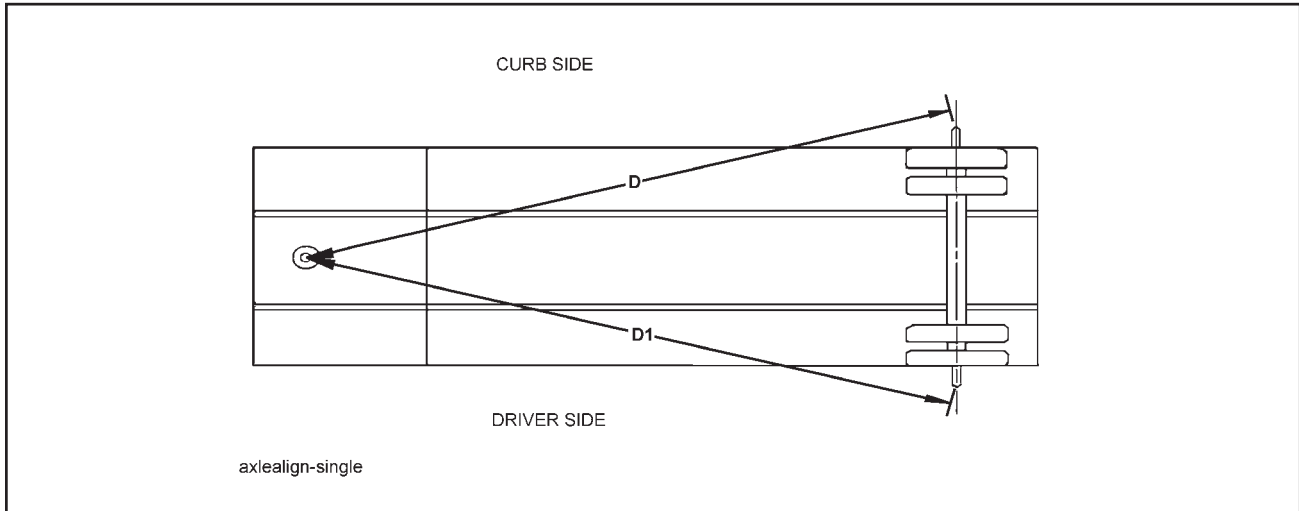

Figure 4-7 Checking Axle Alignment
4. Measure (D) from the plumb bob to the center point on one end of the axle. Record this measurement (**See Figure 4-7**).
5. Measure (D1) to the other end of the axle in the same manner as in **Step 4**.. Record this measurement (**See Figure 4-7**).